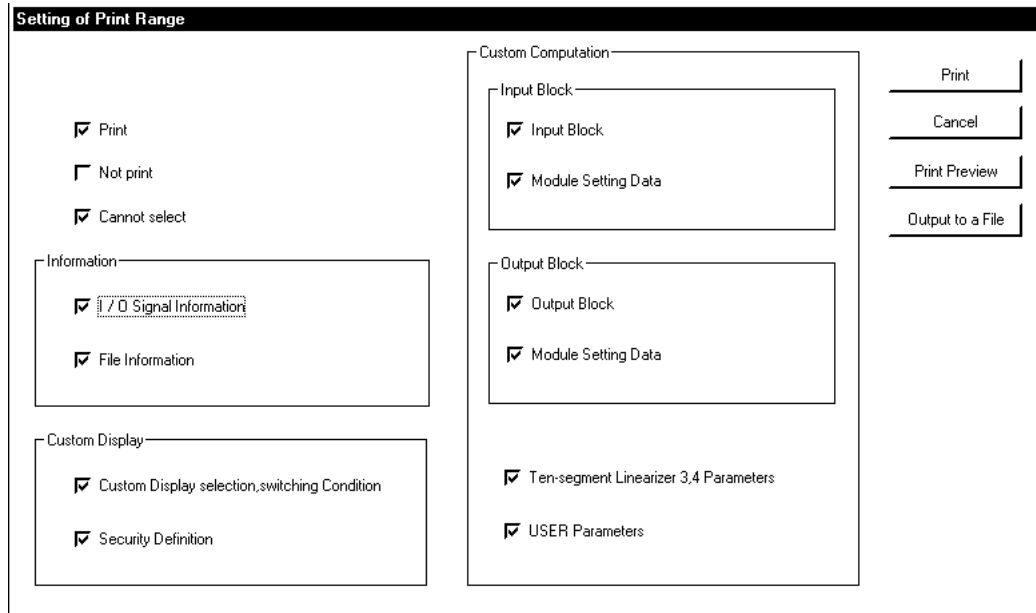
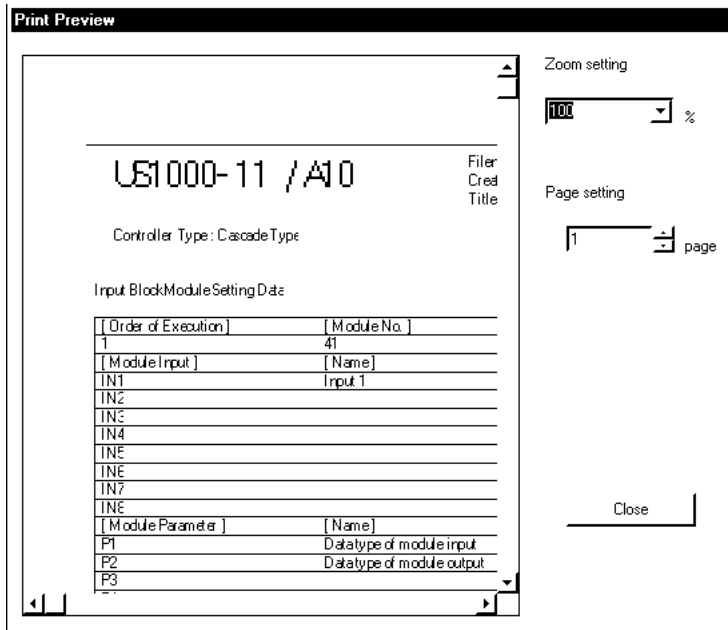
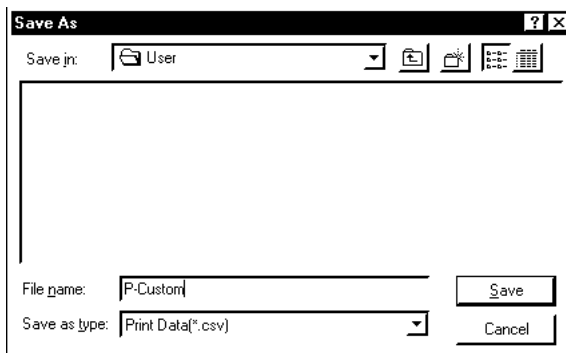

Figure 9.0.1 [Setting of Print Range] Dialog Box
Figure 9.0.2 Example of Print Preview Window
Figure 9.0.3 [Save As] Dialog Box
- ① Make sure the printer is connected to the personal computer.
- ≠ From the tool menus, choose <File>, then <Print...>. The [Setting of Print Range] dialog box (Figure 9.0.1) appears.
- ③ Click the check boxes to choose the data items to be printed.
- ④ Click the <OK> button. The [Printer Settings] dialog box appears.
If you click the <Print Preview> button in the dialog box shown in Figure 9.0.1, the dialog box shown in Figure 9.0.2 appears.
If you click the <Output to a File> button in the dialog box shown in Figure 9.0.1, the dialog box shown in Figure 9.0.3 appears. The file extension used to save data as a file is *****.CSV.